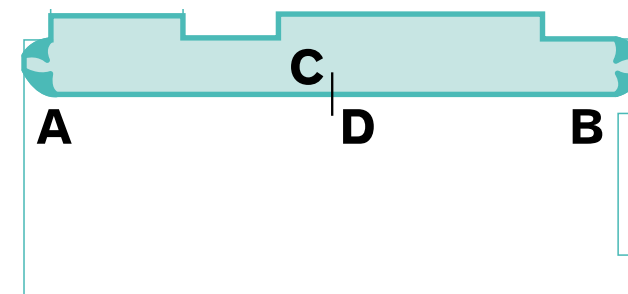

Figure 13 Lining up the first sheet
- ▶ When satisfied that the fit on the first edge is correct, use a pencil to trace the opposite edge onto the subfloor (line A-B in Fig 13).
- ▶ In the centre of the room, draw a line on both the sheet and subfloor square to the main axis of the sheet (line C-D in Fig 13).